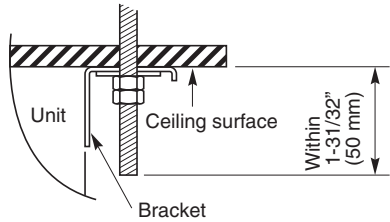

Fig. 3-13
- (5) Screw in the suspension bolts, allowing them to protrude from the ceiling (Figs. 3-11 and 3-12). The distance of each exposed bolt must be of equal length within 1-31/32" (50 mm). (Fig. 3-13)